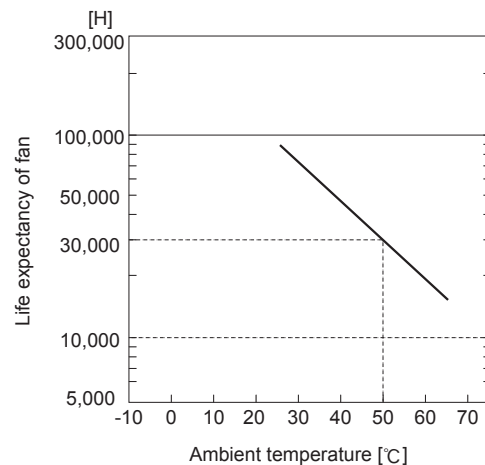

Fig.4.1 Life expectancy of fan ($R(t)=90\%$)
- Regular exchange is necessary for the fan, because the life expectancy ($R(t)=90\%$) of the fan depending on the use condition is shown in Fig.4.1.